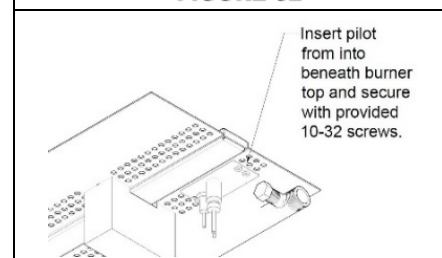

FIGURE 63
- 11) Pull the pilot assembly lead underneath the existing burner pan to the area of the removed burner section. **Figure 63**